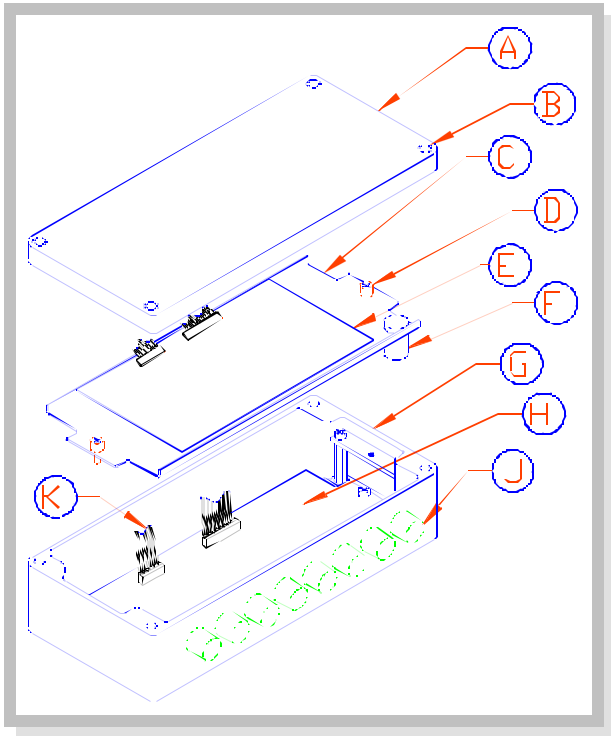

FIGURE 4.1 COMPUTER UNIT COMPONENTS
The **Computer Unit** contains two major assemblies: the **Computer Board (E)**, and the **Termination Board (H)**, shown in Figure 4.1. These boards are in an aluminum box (G), usually located on the rear wall of the cab. On some crane models, they are outside of the cab. The **Computer Board**, containing the microprocessor and its related components, is held in place by screws (D), located on each end of the Computer Board Mounting Plate (C). The **Computer Board** is connected to the **Termination Board** via two ribbon cables (K) that carry signals to and from the Termination Board. All of the cables from the various sensors and the Display Console connect to the Termination Board via the connectors (J) in the wall of the box. The key switch (F) controls three wires that connect the Computer Board to the Termination Board.
1. Refer to Figure 4.1. To access the Computer Board, remove the four screws (B) that secure the cover (A) to the Computer Box. Set the lid and the four screws aside.
4. Disconnect the following three wires that connect the key switch on the Computer Board Mounting Plate to the Termination Board (see Figure 4.1).